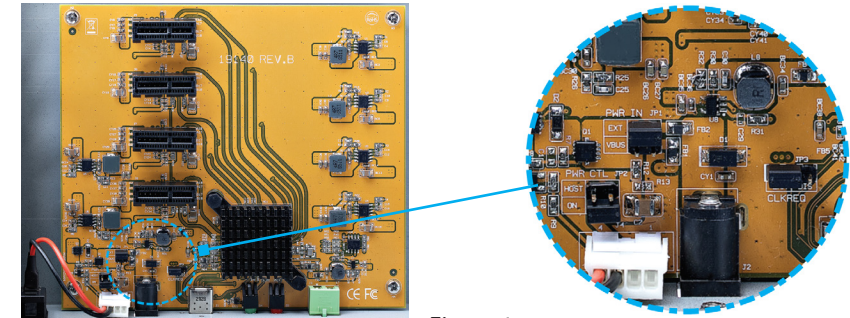

Figure 1
3. (Optional) The **JP2** and **JP1 Jumper** settings on the board allow you to choose different power settings. (Figure 1)